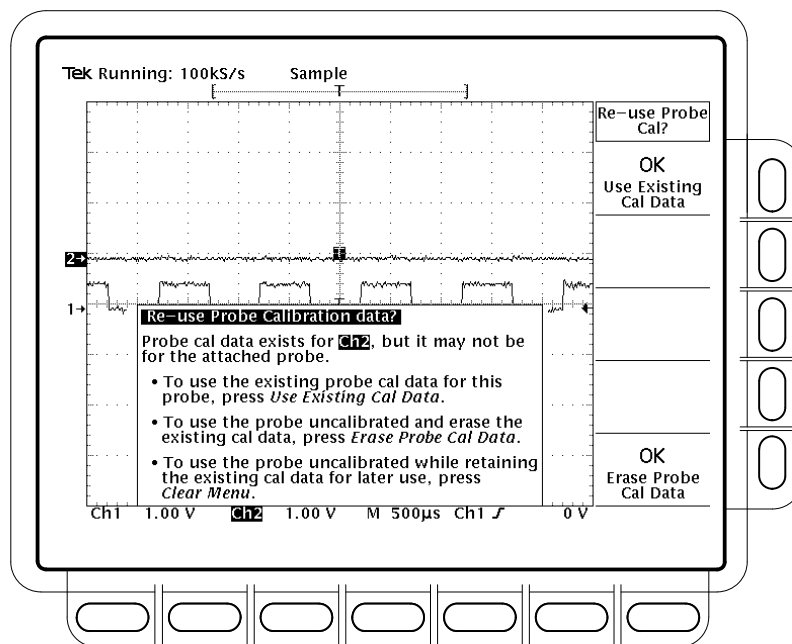

Figure 3–64: Re-use Probe Calibration Data Menu
- If a probe has a simple oscilloscope interface and the probe attenuation factor is the same as was stored at the last Probe Cal, the oscilloscope cannot determine whether it is the same probe. Therefore, it displays the *Re-use Probe Calibration data?* menu. (See Figure 3–64.)